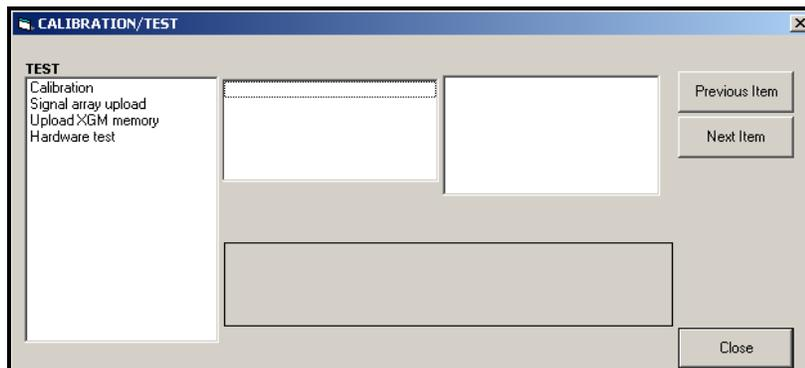

Figure 10: The Calibration/Test Menu
5. To enter data into the user program, double-click on the *Calibration/Test* menu. The window appears similar to *Figure 10* below.
1. From the *Calibration/Test* menu (see *Figure 10* on page 42), double-click on the *Calibration* entry to open the option.
To calibrate any option card installed in Slot 1 of the XGF868i, enter the *Calibration/Test* menu as shown in *Figure 10* on page 42.